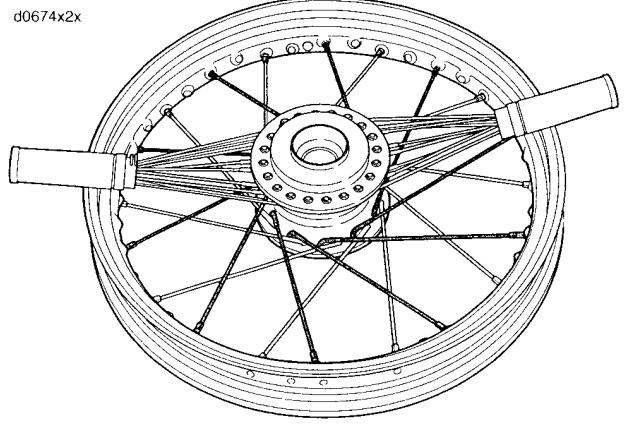

Figure 2-35. Completed Spokes-Bottom Flange Inner
- b. See Figure 2-35. Verify inner spoke reaches spoke nipple and secure spoke loosely by hand. Skip every other hole and repeat lacing. Follow pattern to complete bottom row inner spokes (long head).